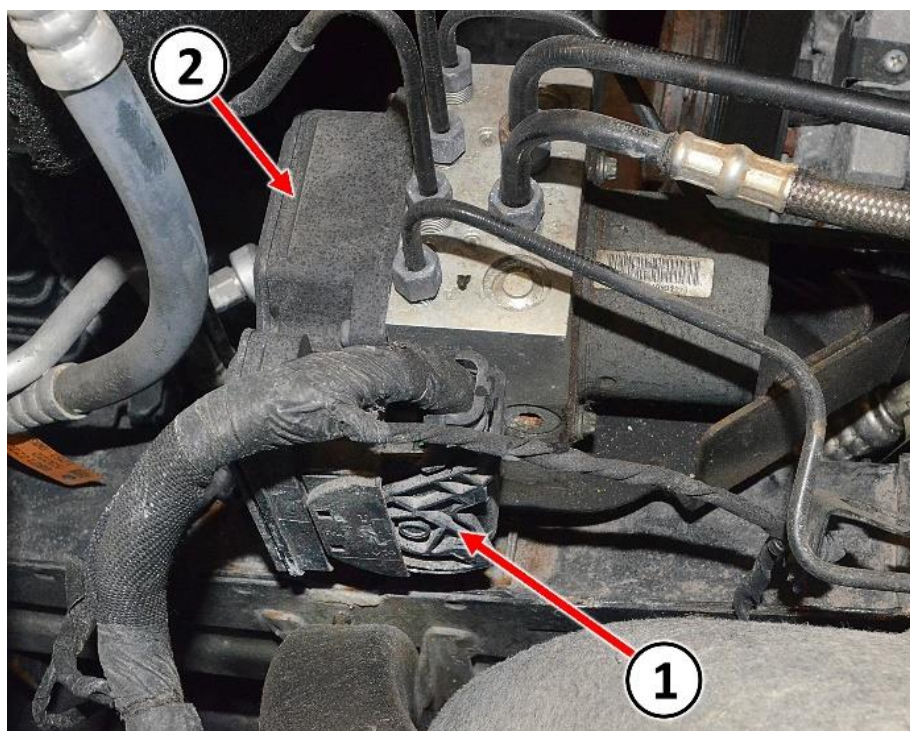

Figure 2 – Wire Harness Connector
10. Disconnect the wire harness connector (1) from the ABS module (2) (Figure 2).
28. Connect the wire harness connector (1) to the ABS module (2). Ensure the retention lock of the harness connector is fully engaged (Figure 2).